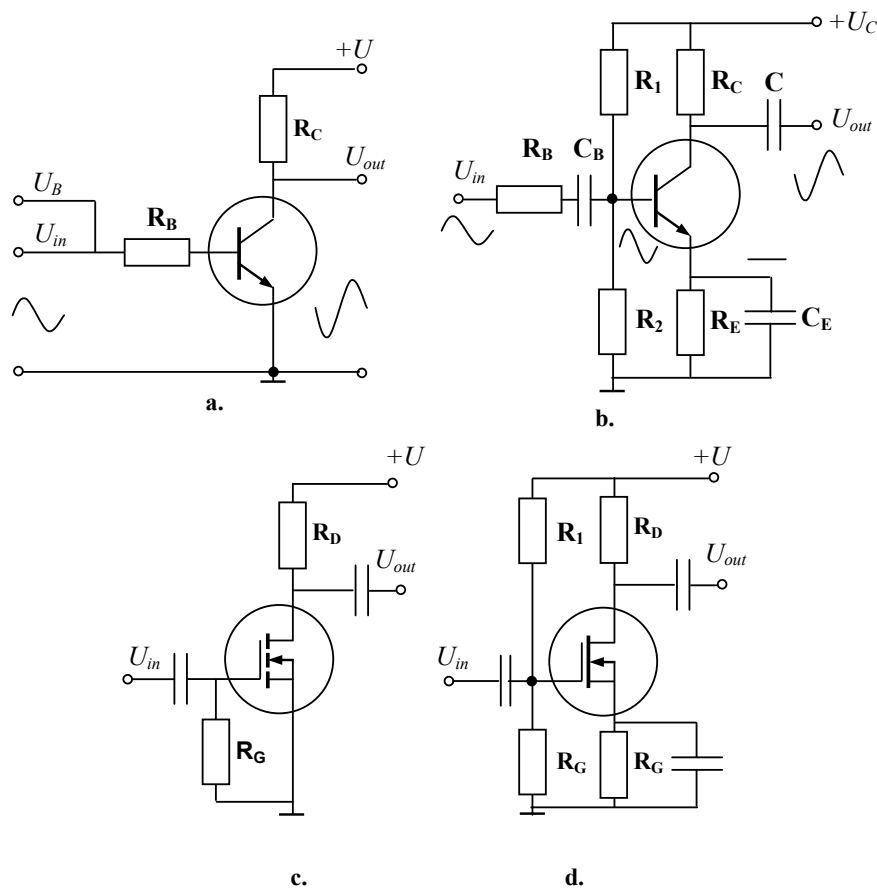

Fig. 2.11
**CE current amplifiers.** Fig. 2.11,a displays a simple transistor linear amplifier. Because the emitter is at the ac ground, it is the CE amplifier. In this circuit, the ac input signal  $U_{in}$  is added to the dc biasing voltage  $U_B$ . They produce a voltage drop in the base resistor  $R_B$ . As a result, the total base voltage changes in accordance with the input signal. Since the base voltage changes, the collector current changes also, as well as the voltage in the resistor  $R_C$  and in the load supplied by  $U_{out}$ . The amplified ac collector voltage is equivalent to being 180 degrees out of phase with the input voltage.
A transistor *current amplifier* used in practice is presented in Fig. 2.11,b. Here, variations in both resistor voltages (base and collector) and transistor currents take place similarly to as in the previous circuit. The only quantity that does not change is the emitter voltage because the emitter is at ac ground.  $U_C$  is the dc supply voltage that sets the Q point and  $U_{in}$  is the ac voltage that should be amplified. Except for external ac source, the dc biasing current enters the base circuit through the divider  $R_1R_2$ . Its value has to be higher than the maximum amplitude of  $U_{in}$ . In such a way,  $U_{in}$  will be amplified without clipping.
The figures below illustrate the current amplifiers with  $n$ -channel enhancement-mode MOSFET (Fig. 2.11,c) and depletion-mode MOSFET (Fig. 2.11,d). Each circuit has the common source, and the input voltage applied to the gate changes the output voltage signal. MOSFETs have very high input impedance at low frequencies (hundreds teraohms) whereas the BJTs input impedance is tens of megohms. These impedances drop down with the frequency growing.